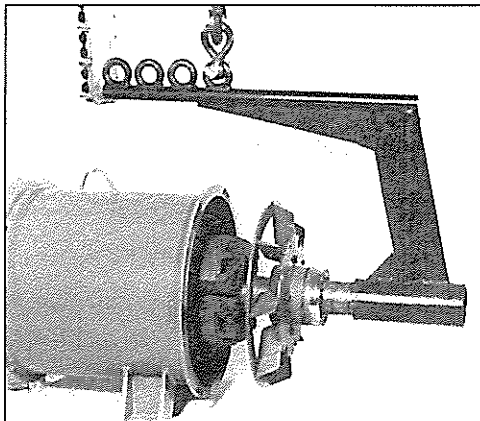

Figure 6-54
2. Using a rotor lifting fixture and a suitable hoist, carefully install the rotor assembly into the main stator assembly through the drive end (figure 6-54). Carefully feed the rotor leads through the front end bracket shaft hole as the rotor is installed.